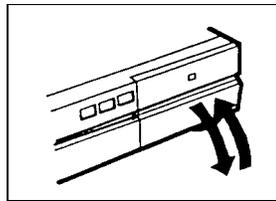

Figure 6-16. Opening and Closing the TX-2000 Ink Cartridge Cover
1. With the printer on, open and close the ink cartridge cover (Figure 6-16) to reset the printer.